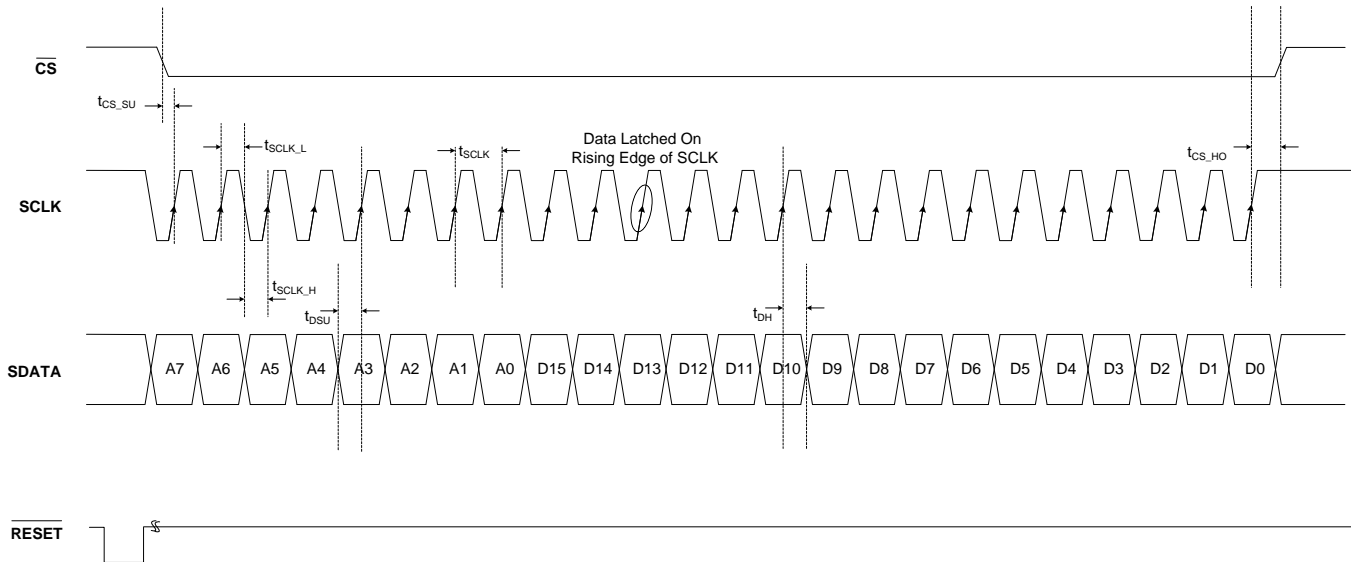
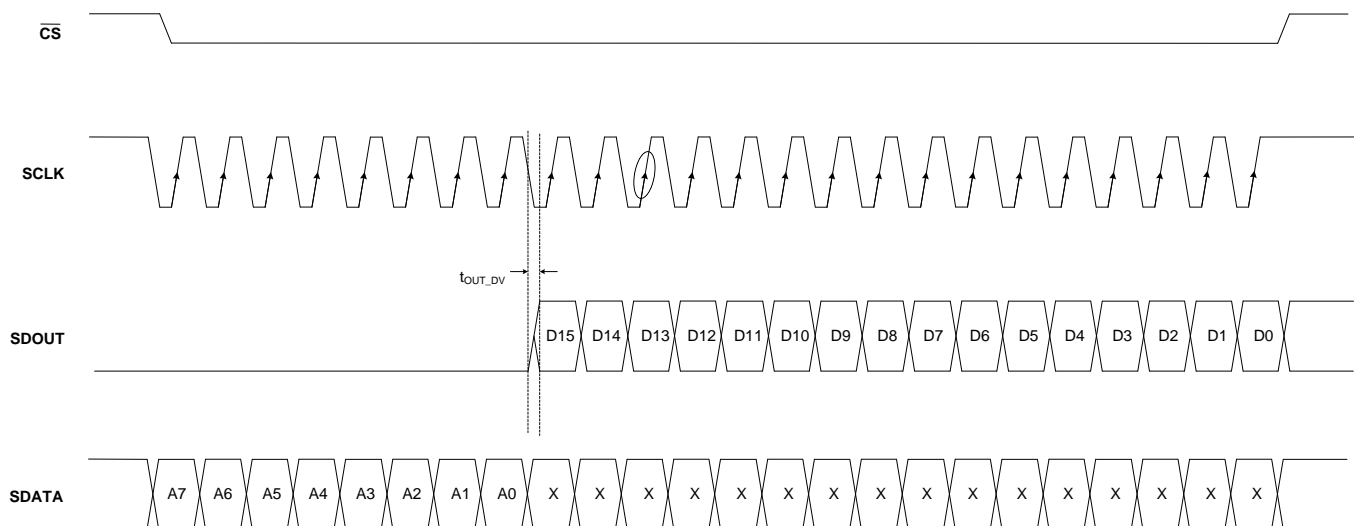

Figure 74. Serial Interface Write Timing Diagram
Figure 76. Serial Interface Read Timing Diagram
1. Either through a hardware reset by applying a low pulse on the $\overline{\text{RESET}}$ pin (of widths greater than 50 ns), see Figure 74; or
Table 7. Timing Characteristics for Figure 74 and Figure 76⁽¹⁾
(1) Typical values are at T_A = +25°C, minimum and maximum values are across the full temperature range of T_{MIN} = –40°C to T_{MAX} = +85°C, unless otherwise noted.
(2) See Figure 76.
To exit serial readout mode, reset the EN_READOUT register bit to '0', which enables writes to all device registers. At this point, the SDOUT pin is in 3-state. A detailed timing diagram for the serial readout mode is shown in Figure 76.